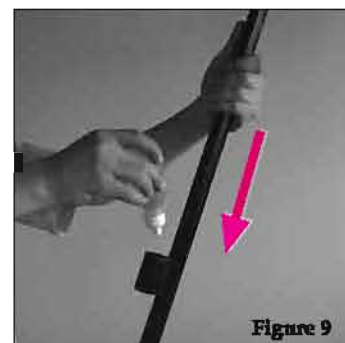

Figure 9
- 2) In order to assure proper operation of the semi-automatic mechanism, it is important to clean and lubricate the barrel ring and magazine tube after each shooting session. Be sure to use a good quality gun cleaning solvent oil (see figure 9)